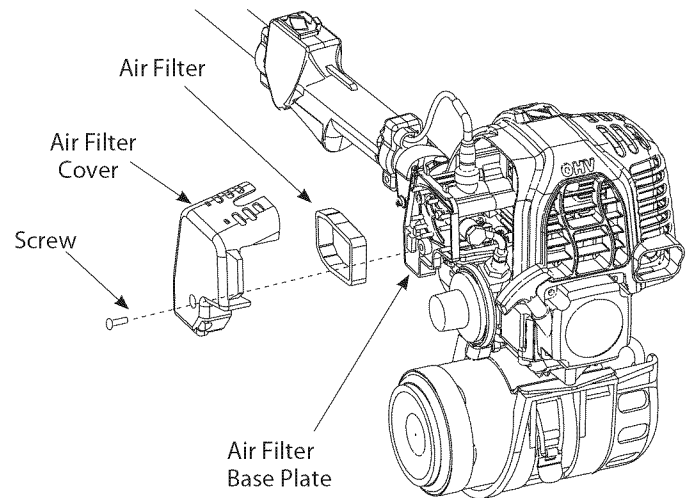

Fig. 20
1. Remove the phillips head screw in the air filter cover. Then pull the air filter cover out and upwards (Fig.20).
2. Remove the air filter (Fig. 20).